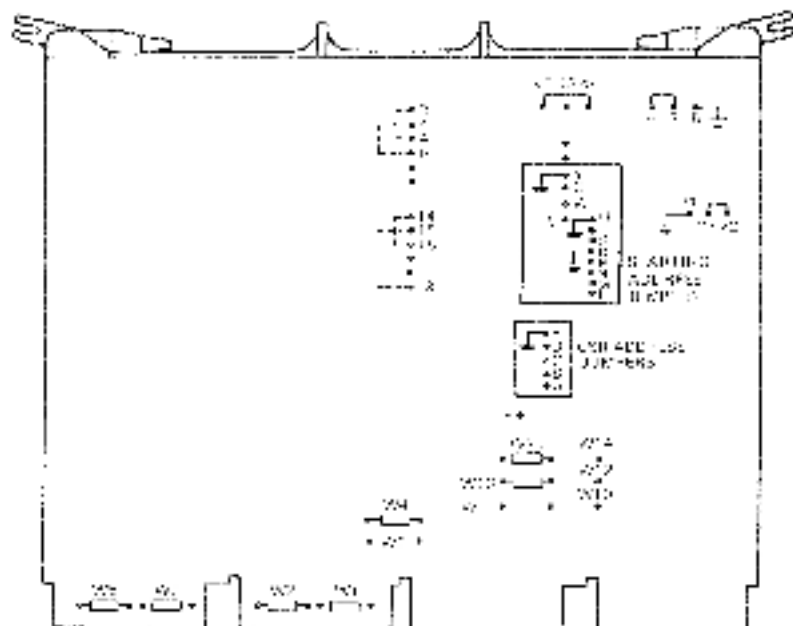

Figure 2-4 MSV11-P Module Layout.
The MSV11-P memory module is configured by means of jumpers and wire-wrap pins. The -PK and -PL models have the same factory configuration. Figure 2-4 shows the location of jumpers and wire-wrap pins and Table 2-13 describes their function.
**2.6.1.1 CSR Address** – Figure 2-4 shows the CSR address jumpers on the MSV11-P. Table 2-14 lists the CSR address and corresponding jumper configurations for each memory module added to the system. The table is applicable to both the -PK and -PL models.